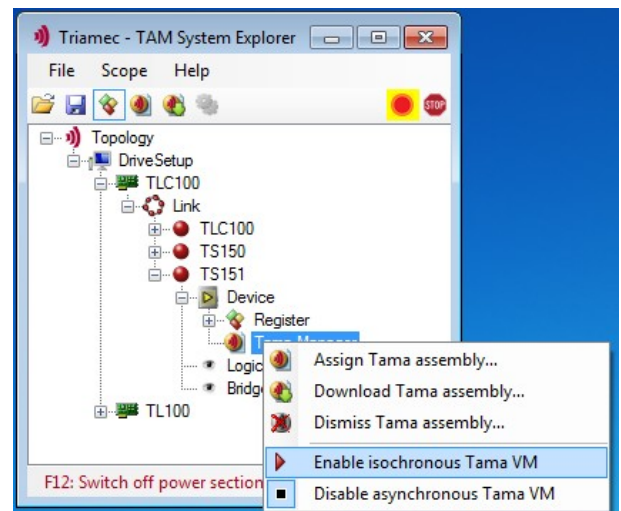

Figure 26: Context Menu of the Tama Manager. The menu entries also indicate whether the virtual machines are currently enabled or not.
1. Open the context menu with a right click on the *Tama Manager* (Figure 26).